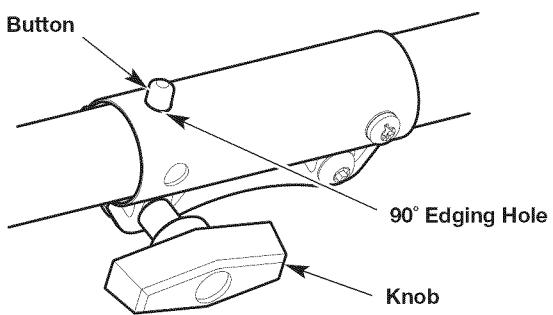

Fig. 12
1. Turn the knob counterclockwise to loosen the coupler (Fig. 12).
2. Press and hold the release button (Fig. 12).
3. Rotate the attachment until the release button snaps firmly into the 90° edging hole (Fig. 12).
4. Turn the knob clockwise to tighten the coupler (Fig. 12).